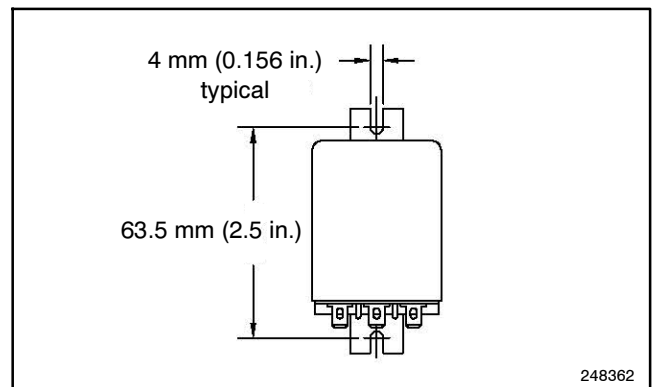

**Figure 2** Location of Safeguard Terminal Strip (Typical 20–300 kW Shown)
- 3.1 Remove the junction box panels and screws to access the safeguard circuit breaker terminal strip. See Figure 2.